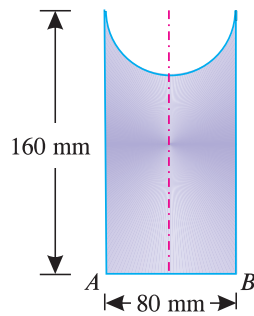

**Fig. 6.31.**
1. A circular hole of 50 mm diameter is cut out from a circular disc of 100 mm diameter as shown in Fig. 6.31. Find the centre of gravity of the section from A.     **[Ans. 41.7 mm]**